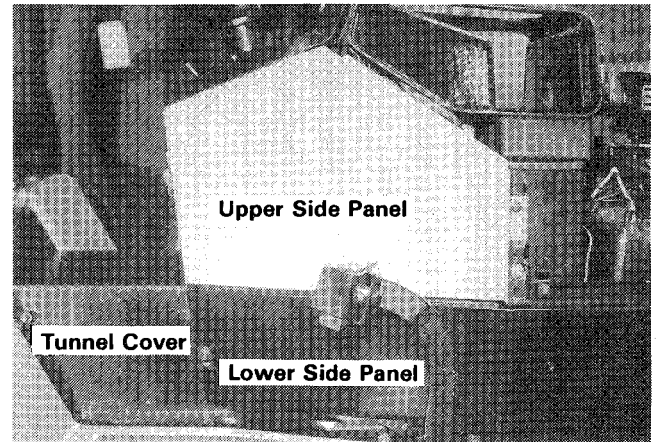

Figure 2.
- a. Remove the tractor lower side panel (figure 2) on right-hand side by removing four screws.
- b. Remove the tunnel cover (figure 2) by removing two screws at rear, and loosening two screws at front (holes are slotted).
- c. Remove upper side panel (figure 2) by removing three screws.